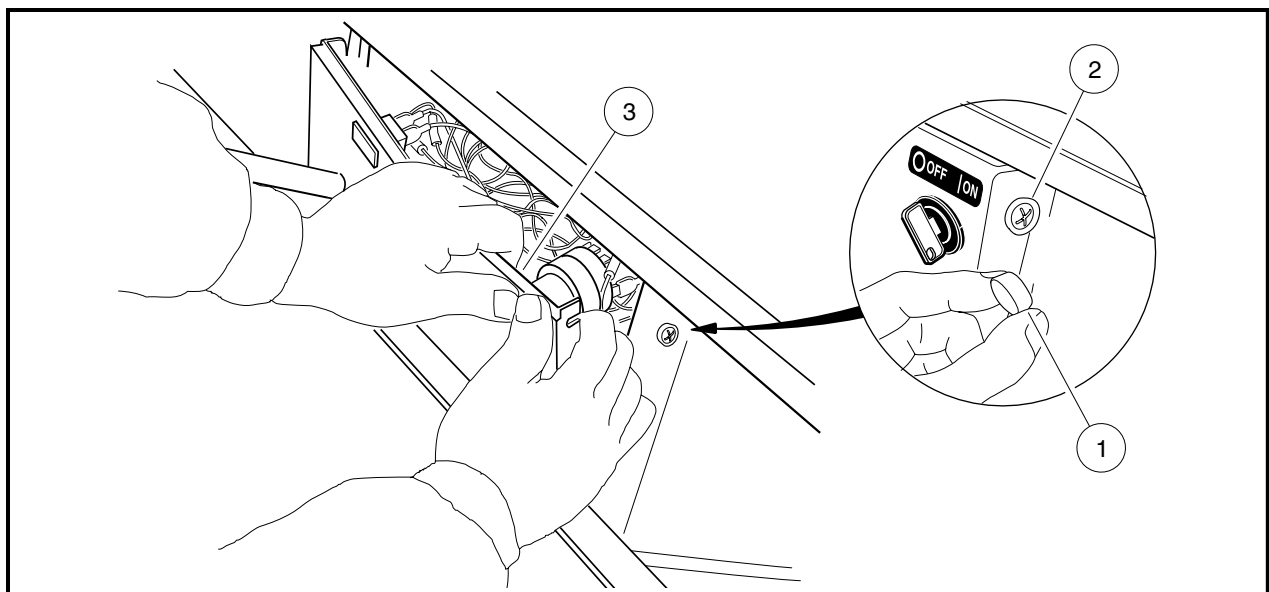

Figure 12-1 Dash Removal
- 2.1. Remove the plastic cap (1) covering the mounting screw (2) on each side of the center dash panel (3) (**Figure 12-1, Page 12-1**).